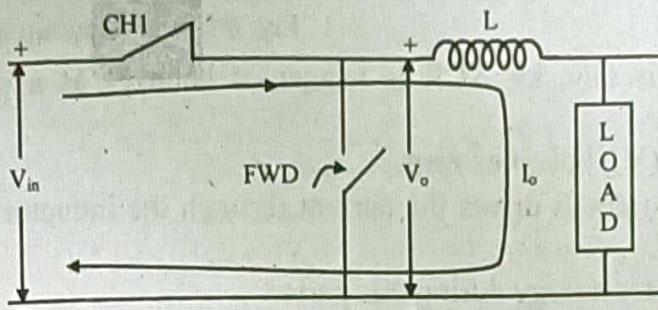

Fig: 3 Chopper circuit when SCR is closed and the current path
- $V_o = V_{in}$  with polarity as shown in the figure 3